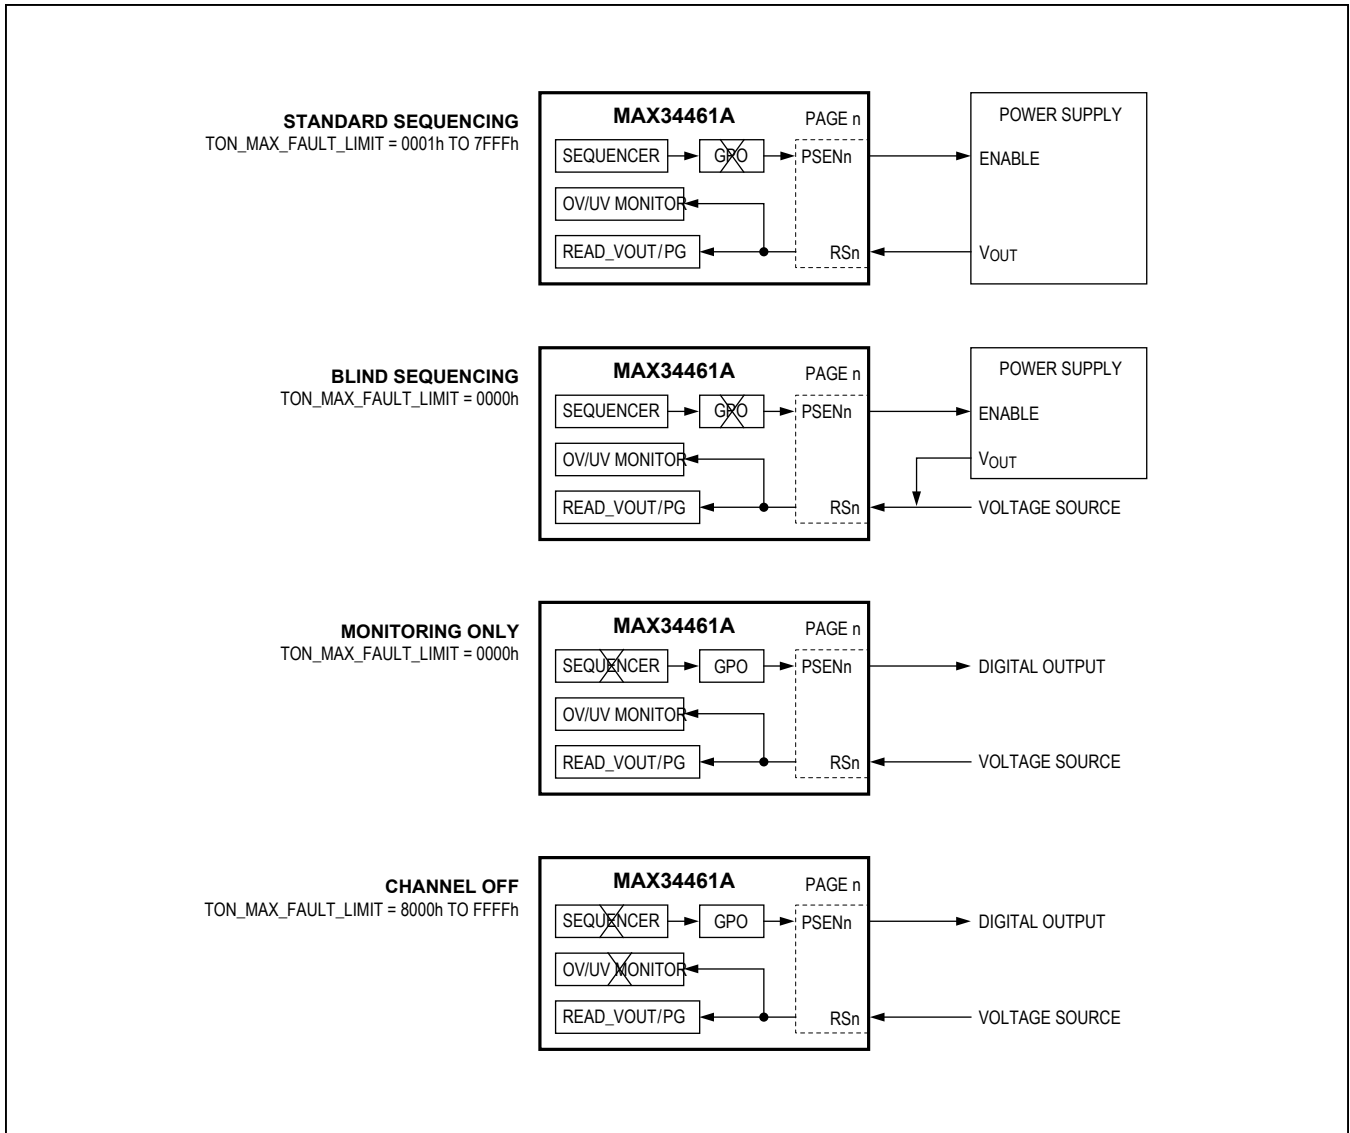

Figure 4. Sequencing Configurations
**Note 2:** See Figure 4 for example hardware configurations.